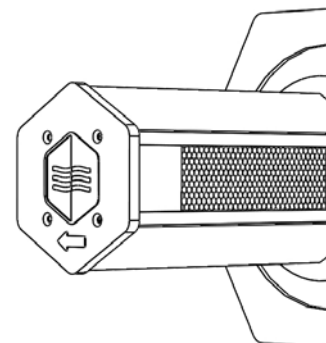

Fig. 2 Orient device in proper airflow direction as indicated
- Be sure to orient the device for proper airflow through the core. Proper airflow direction is indicated by an arrow on the tip of the core. (See Fig. 2)
- Insert device into opening and secure with knurled nuts. **Note: Be sure airflow will pass in the proper direction as indicated by the arrow on the top of the core. (See Fig. 2)**